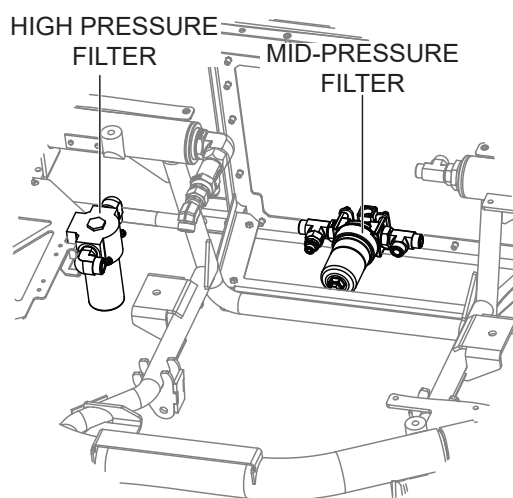

Figure 41. Hydraulic Oil Filter
1. Change the hydraulic oil and filters (Figure 41) after the first 100 hours of use, then change every 250 hours. Use 10-micron absolute synthetic media filters.